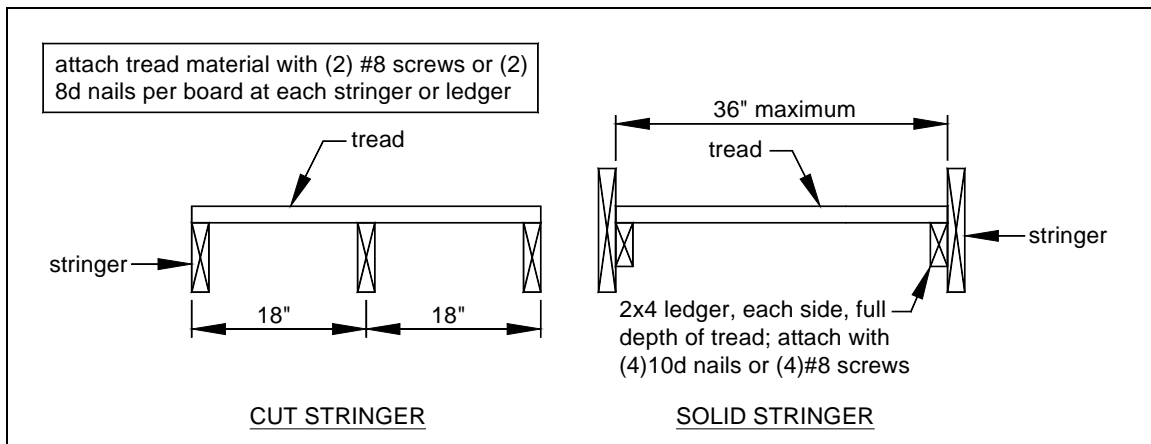

FIGURE 36: TREAD CONNECTION REQUIREMENTS
- Tread material shall be attached per FIGURE 36.